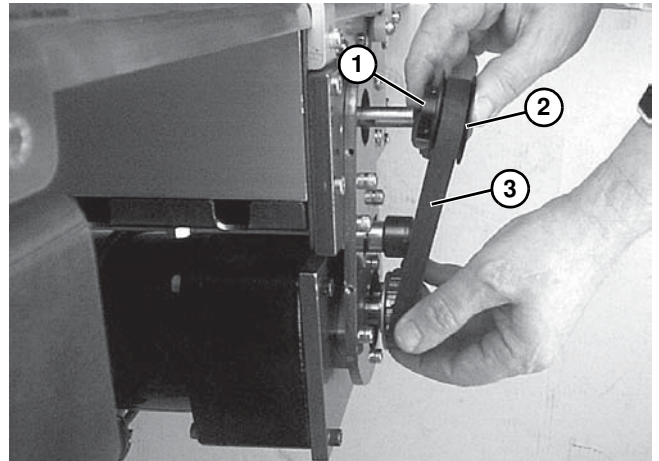

Figure 36
If the timing belt does not slide over the pulley flange, loosen the driven pulley set screws (**Figure 36, item 1**) and remove the pulley (**Figure 36, item 2**) with the belt (**Figure 36, item 3**).